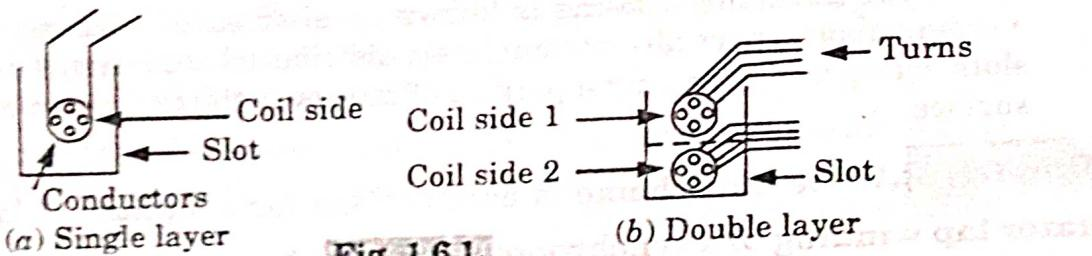

Fig. 1.6.1.
1. If a slot consists of only one coil side, winding is said to be single layer. This is shown in the Fig. 1.6.1(a).
2. If there are two coil sides per slot, one at the bottom and one at the top the winding is called double layer as shown in the Fig. 1.6.1(b).